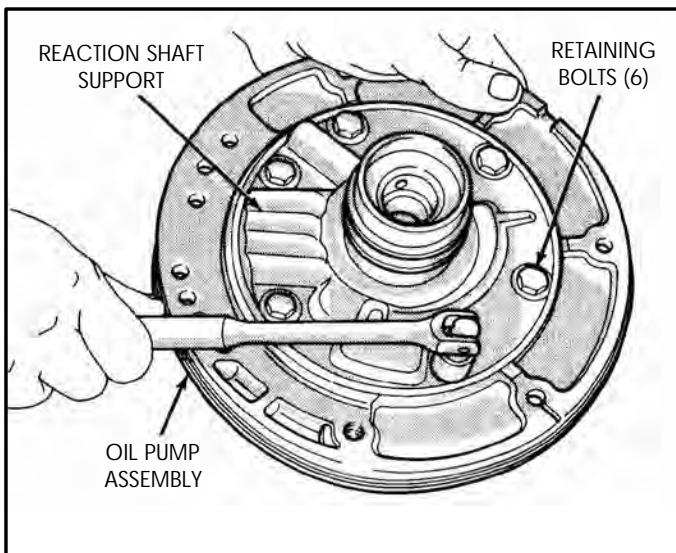

Figure 81
1. Remove the 6 reaction shaft support to pump housing retaining bolts (See Figure 81).